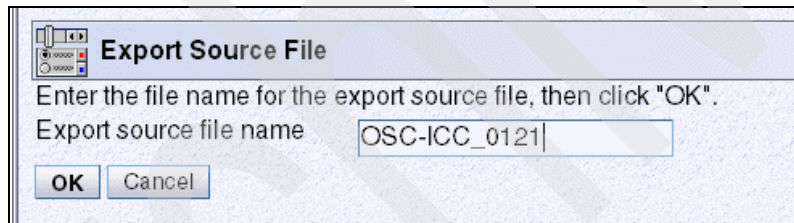

Figure 3-42 HMC - OSA Advanced Facilities (Export filename)
8. The task requests a file name to be written onto the installed Media device. In our example we entered OSC-ICC_0220 (Figure 3-42). Click **OK**.